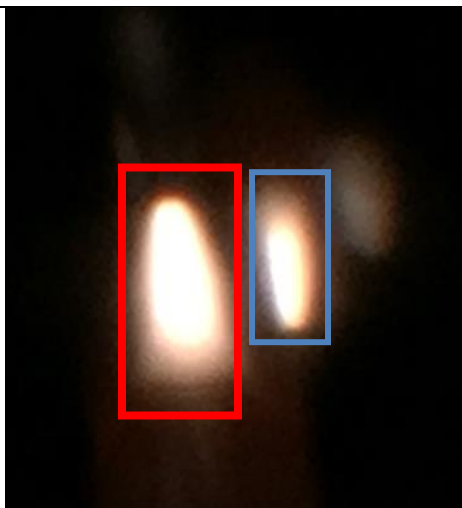

Figure 41: Xe arc lamp primary image (red) and secondary reflected image (blue).
7. Move the lever so that it rotates about the cylindrical condenser lens assembly until the arc between the anode and cathode becomes visible. This is usually achieved when the adjustment lever is as farthest from the lamp housing as possible. A smaller, secondary image may also be visible on the backdrop. This is the reflection of the arc from the rear reflector inside the housing as seen in Figure 41.
11. A reflector is located behind the lamp inside the lamp housing. The position of the reflector is adjusted using the knobs located on the side of the lamp housing, as shown in Figure 36. The lamp's reflected image is referred to as the "secondary image". Figure 41 shows the lamp arc's primary image in the red box and the secondary image in the blue box. Using the reflector adjustment knobs, ensure the secondary image is as sharp as possible. This may require loosening the condenser lens assembly adjustment knob and defocusing the primary image of the lamp anode and cathode, in order to achieve